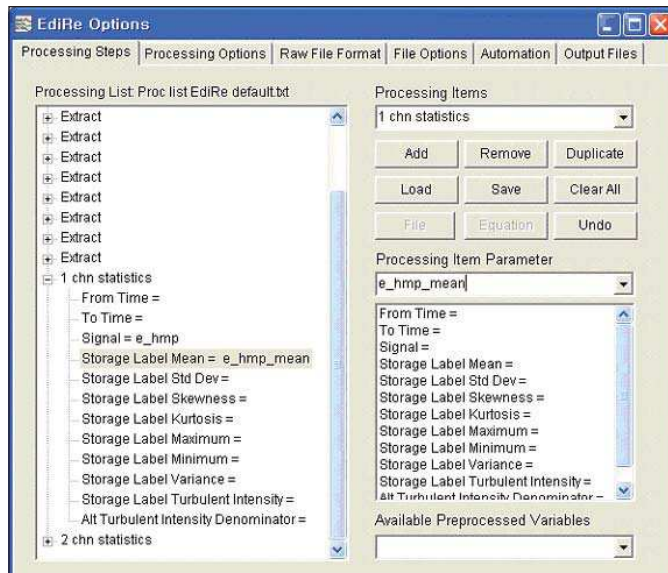

Figure 10: Add 1 chn statistics and fill in Storage Label Mean = e_hmp_mean to compute mean vapor pressure.
22. In order to compute the sensible heat flux coefficient, we first compute mean values for vapor pressure, air temperature, and air pressure. The raw values are stored in the ts_data.dat time series data file by the dataloggers. Figures 10 through 12 show how it is done.